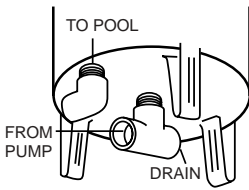

FIG 1:
SUGGESTED INSTALLATION (Fig. 1)
1. Install 1-1/2" "T" on the center nipple as shown in figure 1.